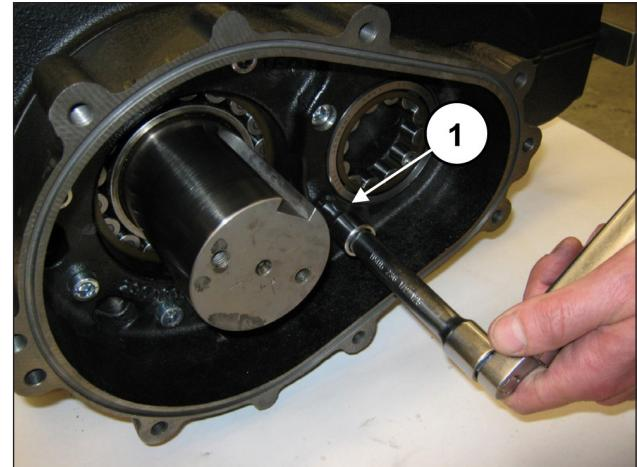

Fig. 66
Tighten the 8 M10x40 screws (pos. ①, Fig. 66).